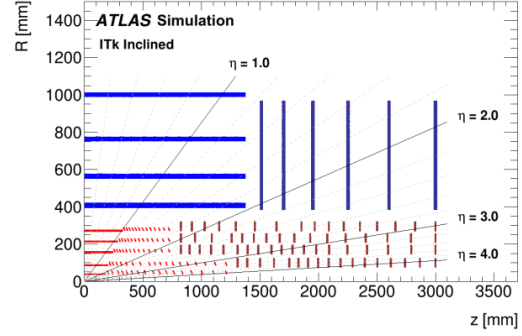

Figure 1: layout of ITk cited from [1]
LHC is planned to have a long shutdown from 2026, to get an upgrade to High-Luminosity (HL-LHC). During this long shut-down, ATLAS is also upgraded. I worked on the upgrade of the Si pixel detector, which is used in the upgraded ATLAS detector. In the figure 1, the red ones are the Si pixels. My work here was to do the assembly of the modules, to put bare modules (BM) and flexible circuit (flex) together by using glue.